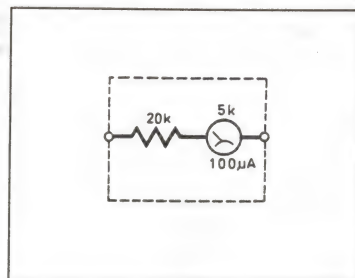

Fig. 4.9. Simple voltmeter circuit.
2. The voltmeter shown in Fig. 4.9 is required to measure a f.s.d. of 10 V . Can it be used as it stands, or will it need a shunt or multiplier; state which? What value of shunt or multiplier (if any) might be needed?